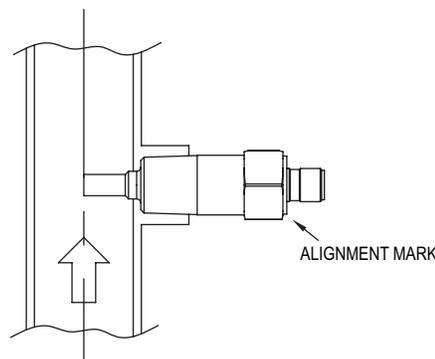

Figure 2
- For vertical pipes: mount unit in rising pipe (medium flows upwards, Figure 2).